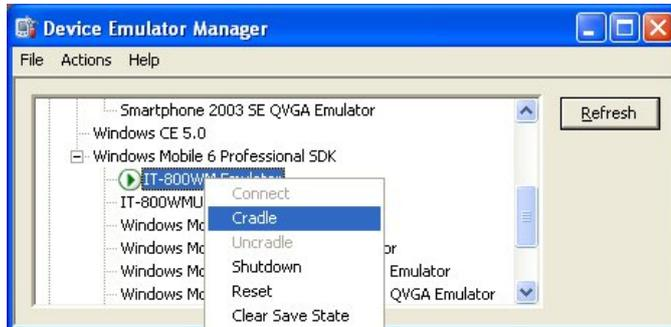

Figure 7.15
2. Start up Visual Studio 2008 or Visual Studio 2005, and then navigate to **Tools** → **Device Emulator Manager**. Right-click **IT-800WM Emulator** in the list and then choose **Cradle** in the pop up menu. See Figure 7.15.